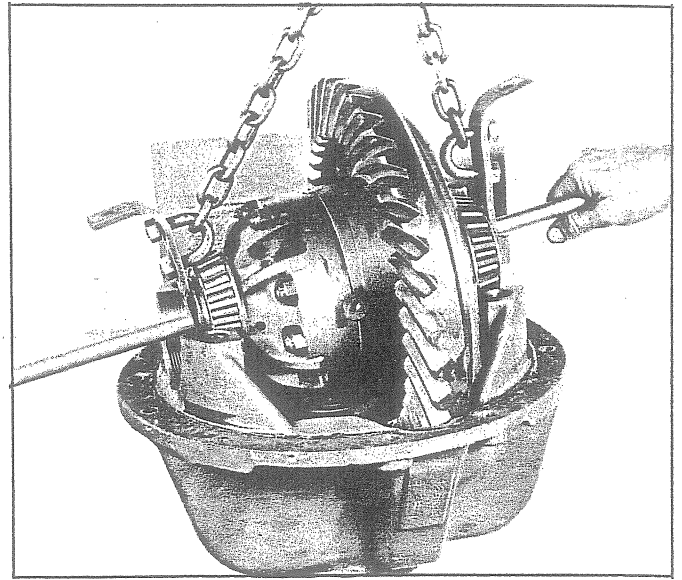

Fig. 49 - Lifting Differential from Housing
5. Attach suitable lifting device to the differential and lift out of the housing as shown in Fig. 49.